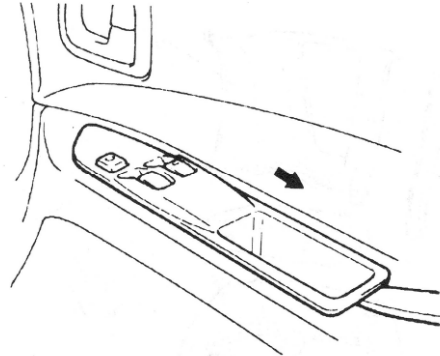

Fig. 18-36
- (2) According to Fig.18-36, open the rear end of the bracket of regulator switch-bezel by hand or tools, slide along the arrow, disassembly the bracket of regulator switch-bezel.